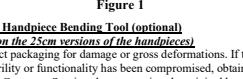

Figure 1
1. If using a working channel handpiece (**Figure 1**), a depth control mechanism with luer (1a) or unique MINOP attachment (1b) was added for interfacing with endoscopes.
a. For certain handpieces (e.g., LOTTA, Little Lotta, PAEDISCOPE), the depth control mechanism with luer (1a) requires a unique adapter (2) to connect to those endoscopes. In addition, for handpieces meant to interface with an Endo-scope, a hub adapter (3) is provided to control depth depending on the channel being used.
c. Rotate depth-control dial (4) to adjust depth of handpiece during procedure, as clinically appropriate.